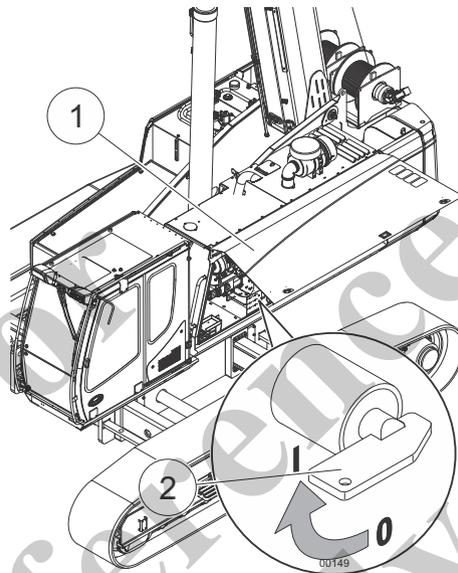

Fig. 180 Switching on the battery disconnect switch
1	Open the left service access door (1) in Fig. 180.
2	Turn the battery disconnect switch (2) in Fig. 180 to position I.